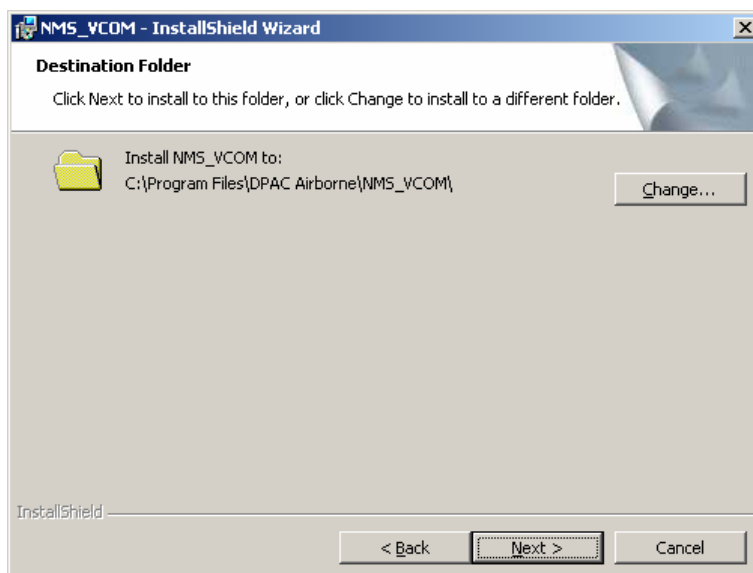

Figure 33. Destination Folder Screen
- Click the **Next** button. The Destination Folder screen appears, showing the location where VCOM will be installed (see Figure 33).